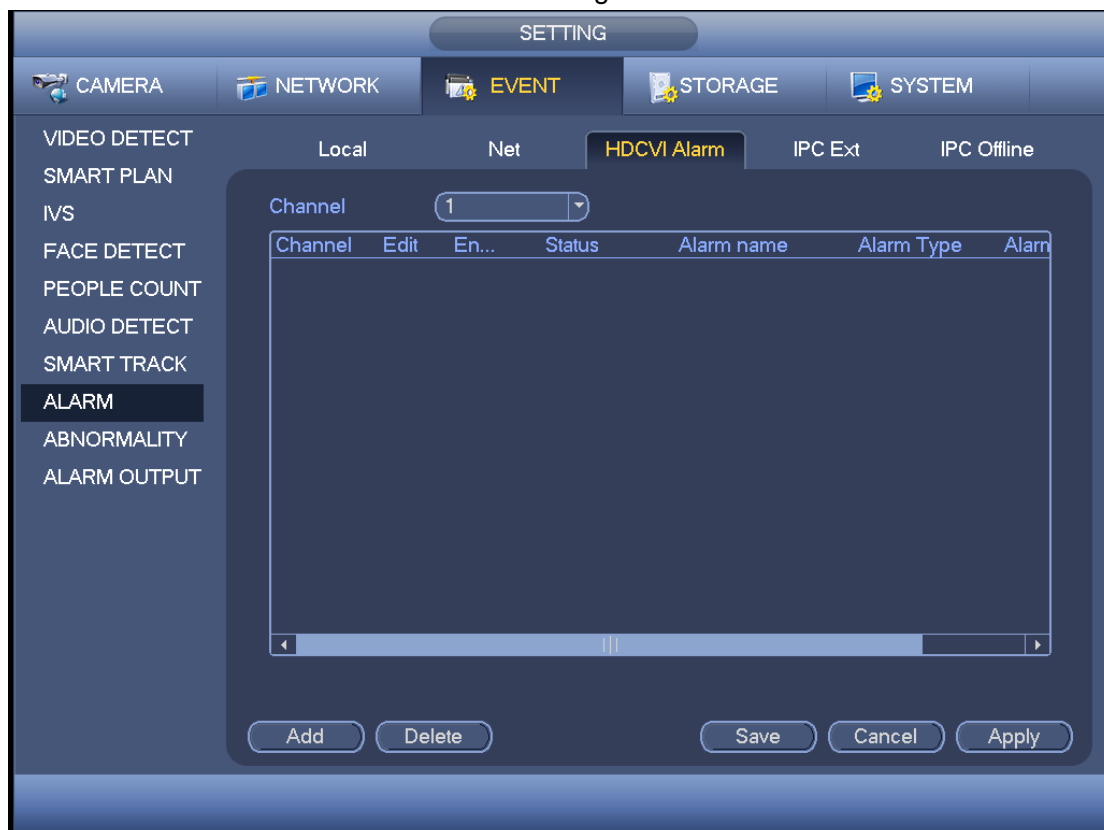

Figure 4-181
Enter HDCVI alarm interface. See Figure 4-181.
Step 2 In Figure 4-181, click Add button.
System goes back to Figure 4-181.